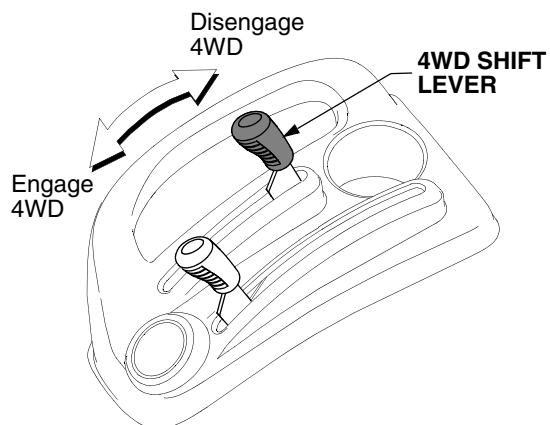

Figure 18
- Stop the tractor; push the lever to the right of the slot to clear the shift gate; then shift forward to engage the four wheel drive. See Figure 18.